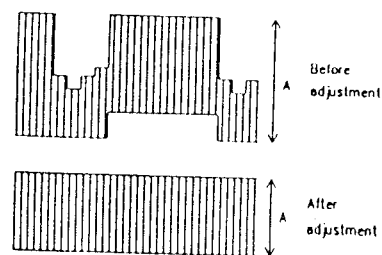

Figure 11
- 3) Adjust L153 until the amplitude A of the colour bar signal is minimum (See Fig. 11)